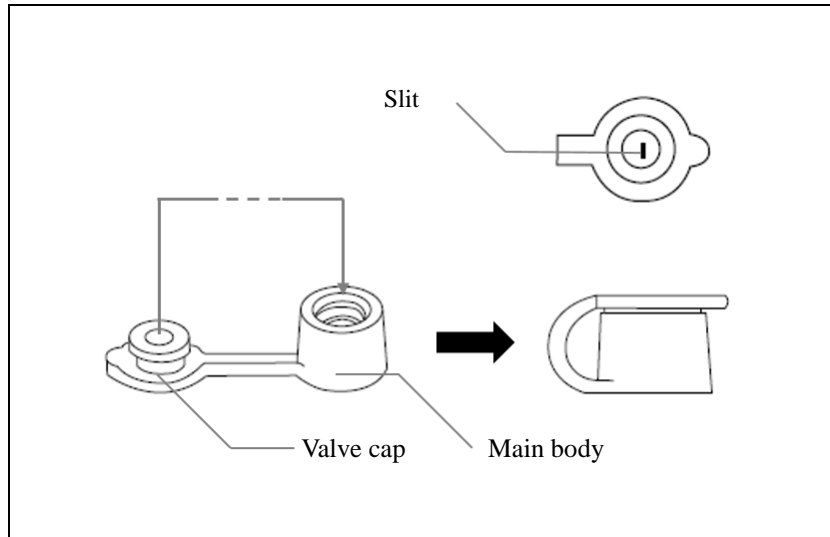

Figure 3.22
2. Cover the valve cap on the main body (as shown in Figure 3.22).